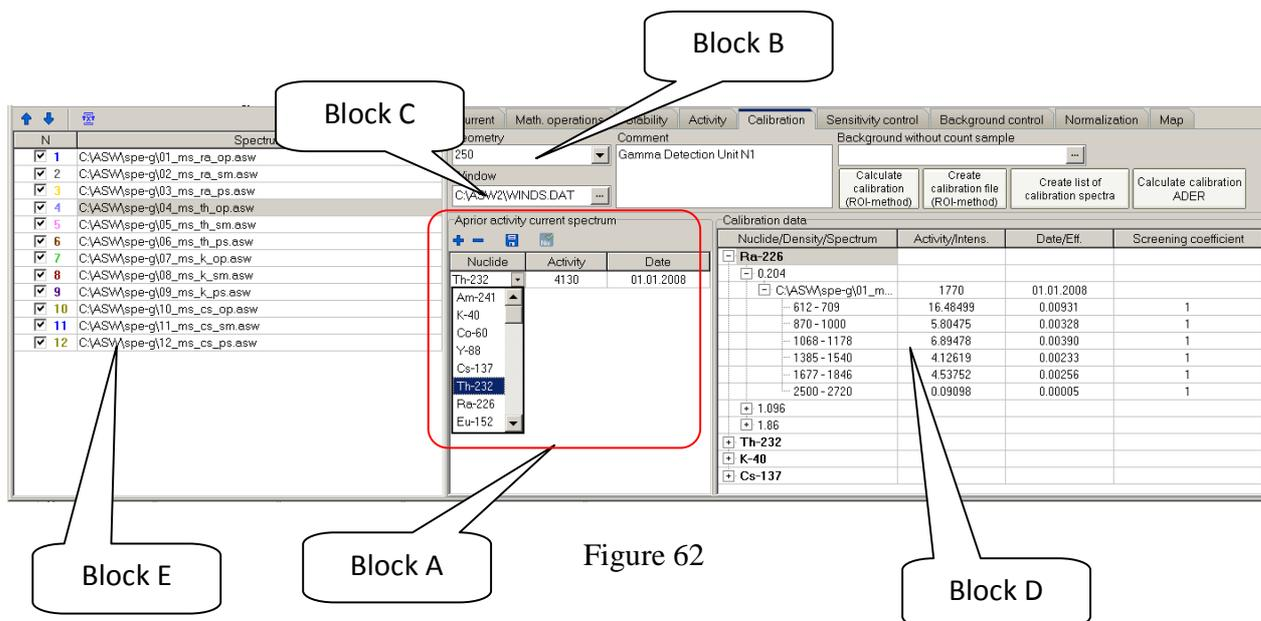

Figure 62
To this end, mark the first spectrum in the spectrum list (Fig. 62, block E) and click button  (see Fig. 62, block A). In column **Nuclide** of the string which will appear below, choose the radionuclide from the drop-down list. Specify the activity or radionuclide concentration in the reference sample in column **Activity**. Specify the certification date of the radionuclide activity or concentration in column **'Date'**. Then click button  to save the data. The procedure described is applied to each spectrum in the main table (Fig. 62, block E).
If the drop-down list of column **Nuclide** is empty, load a radionuclide library by clicking button  above the table (see Fig. 62, block A) and choosing a proper file in the standard dialog box.
14.2.6 Choose appropriate geometry in field **Geometry** (Marinelli 1L, 0.25L vessel and so on, see Fig. 62, block B).
14.2.10 All the calculated calibration sensitivity coefficients will appear as a tree structure in field **Calibration data** (see Fig. 62, block D).
In case the spectrometer should be calibrated in units of measurement different from Bq, for example, mass fraction, percent and so on, the calibration procedure remains the same as described in section 14.2. The certified values of the samples and their units of measurement are specified in the table (Fig. 62, block A) with no changes according to paragraph 14.2.5. At the same time, one must additionally edit the output calibration file (*.clb) and specify the proper units of measurement in the string containing the radionuclide's name as shown in the example below.